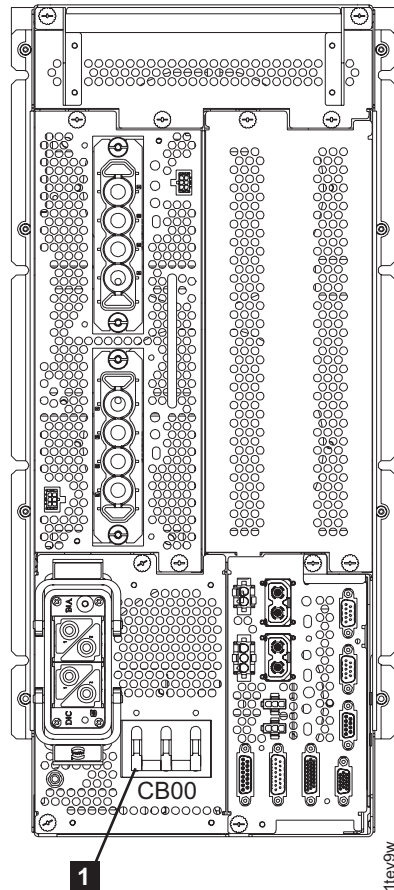

Figure 76. Rear view of PPS showing CB00
3. Verify the MAIN LINE circuit breaker **1** (CB00) on the rear of each primary power supply is set to Off (down). Refer to Figure 76.